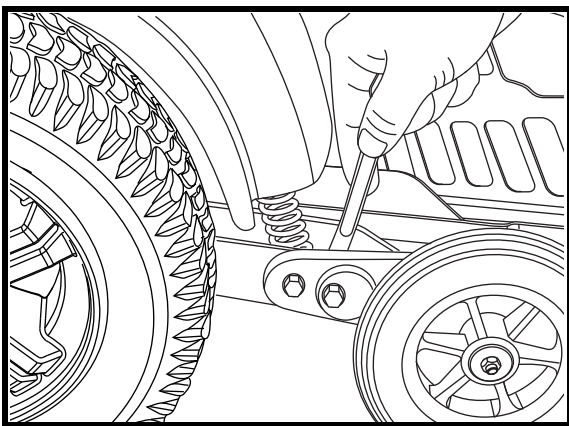

Figure 21. Anti-Tip Wheel Adjustment (Inner Locknut)
1. Place a spanner on the inner locknut of the anti-tip bracket located right after the shock strut. See figure 21.